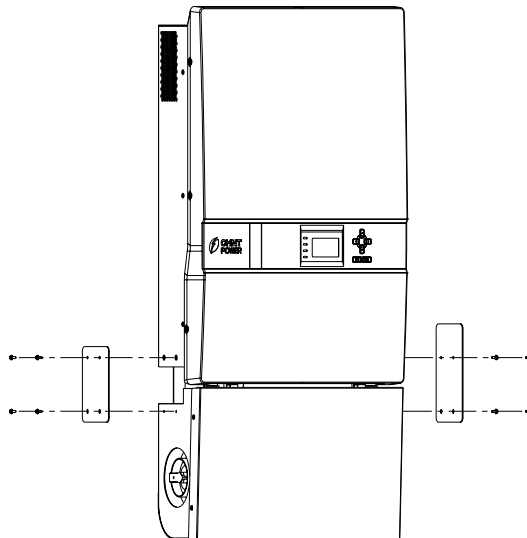

Figure 3-6 Removal of panels before mounting inverter
- (d) Screw off the bolts and remove the two panels on both sides of the inverter as shown in Figure 3-6;